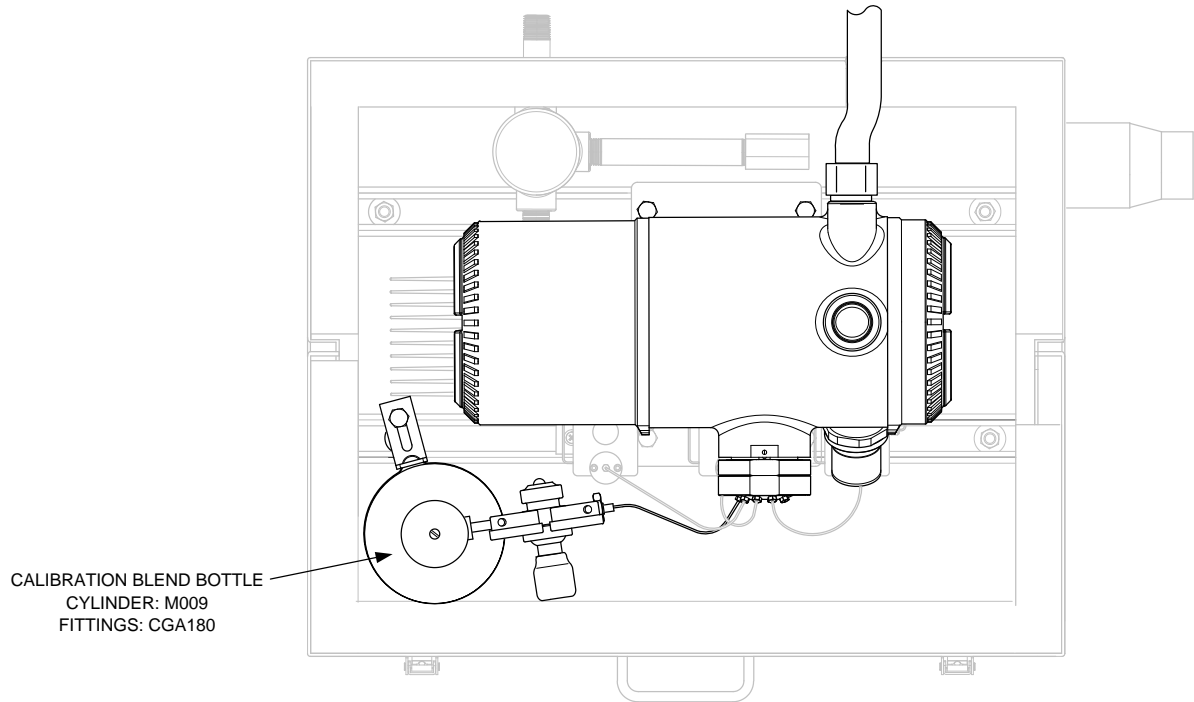

Figure 3-42 Calibration Bottle Location
The calibration gas bottle mounting rack is used to hold the calibration gas bottle when located inside of the small environmental enclosure. Refer to Figure 3-42.
- 1) Locate the bottle bracket and bottle clamp in the left front area of the environmental enclosure (see Figure 3-42).